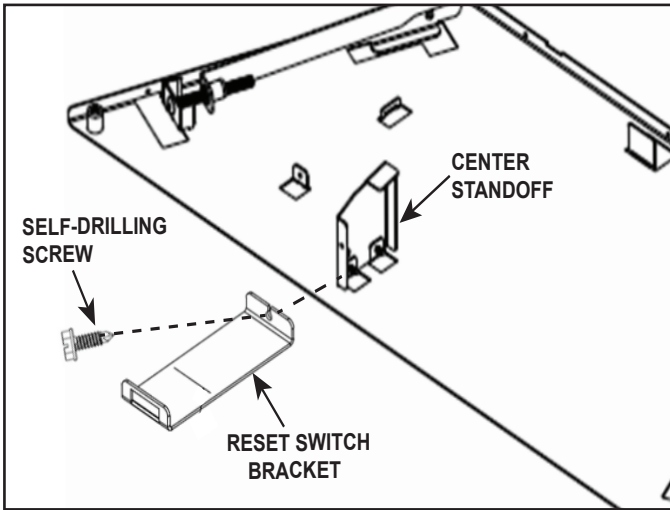

Figure 2 PROVIDENT/JASPER Bracket Location
1. Remove the shipping bracket from the surround. See Figure 2.
**Note:** For alternative rocker switch location using the rocker switch mounting bracket see Figure 2 for PROVIDENT/JASPER metal inserts and see Figure 3 for all other metal inserts.